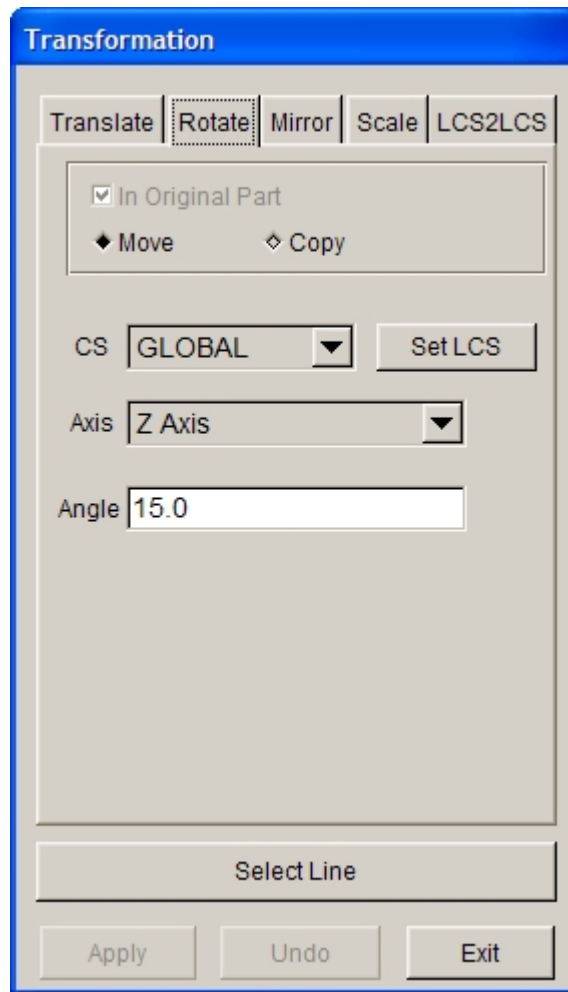

Figure 5.1.34 Rotate Line Interface
1. Select a translation type: MOVE or COPY, as shown in Figure 5.1.34. Once COPY is selected, IN ORIGINAL PART option is activated. The user can select or deselect IN ORIGINAL PART. If it is not selected, the copied line will be in the current part.
2. Select the coordinate system (CS). If SET LCS is selected, the program will display the LCS window for the user to define a new LCS. Details about defining LCS refer to Section 2.5, LOCAL COORDINATE SYSTEM. The transformation will be completed in the defined system. If SET LCS is not selected, LCS window will not be displayed, and the transformation will be completed in the current coordinate system.
1. Select a rotation type: MOVE or COPY, as shown in Figure 5.1.34. Once COPY is selected, IN ORIGINAL PART option is activated. The user can select or deselect IN ORIGINAL PART. If it is not selected, the rotated line will be in the current part.